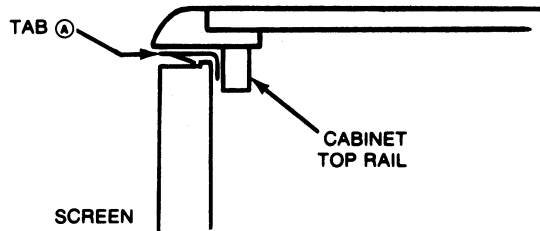

Fig. 2a - Cabinet Detail (Screen Removal) Models: 46GW950, P46100/150, P52150
2. Insert a small flat-blade screwdriver between the screen and cabinet top rail to release the metal retaining tabs (see Fig. 2a).